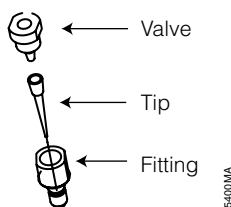

Figure 76. Injector tip assembly.
3. Twist the white tip valve counterclockwise to release it from the gray tube fitting. Figure 76 illustrates the (white) tip valve.